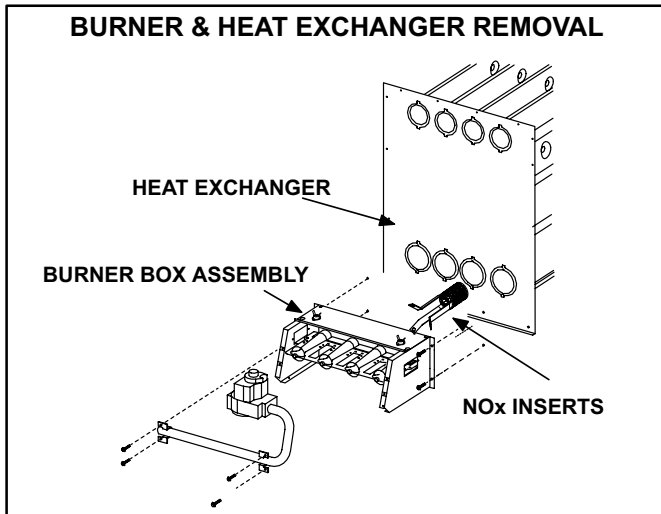

FIGURE 19
Cleaning the heat exchanger requires a steel spring "snake," a reversible drill and a vacuum cleaner. The steel spring snake may be constructed by purchasing a 4 ft. long by 1/4" diameter steel wire cable and a 1/4" diameter wire brush. These items are available at a hardware store. Insert wire end of brush into the open end of the spring cable. Crimp the cable around the brush so that the brush is secured and will not come off during cleaning. Attach the other end of the cable to the reversible drill to complete the tool for cleaning the heat exchanger. See figure 19 for parts arrangement when disassembling furnace.
- 6 - Disconnect gas supply piping. Remove six screws securing the burner manifold assembly to the lower vestibule panel and remove the assembly from the unit. NO_x units only: remove screws holding NO_x inserts. Carefully remove inserts from each heat exchanger clam. See figure 19.